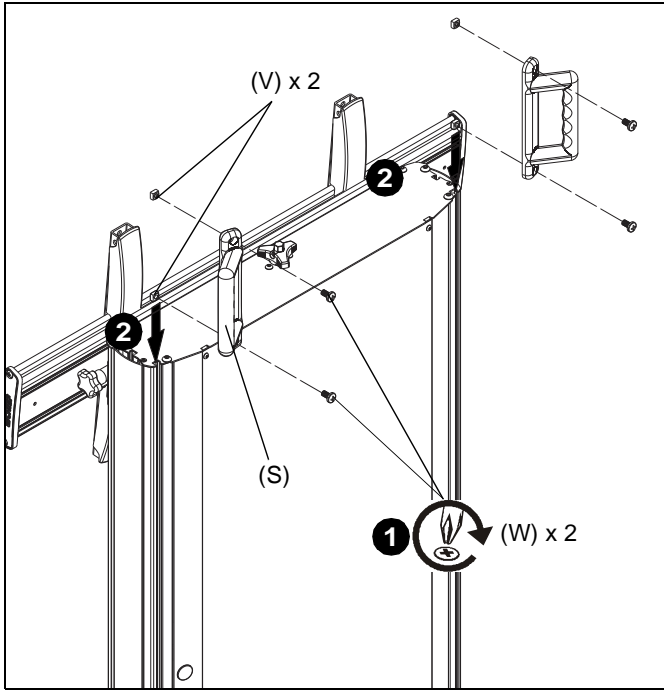

Figure 11
1. Loosely install two 1/4-20 x 1/2" Phillips pan machine screws (W) through holes in each handle (S) and into 1/4-20 square nuts (V). (See Figure 11)
2. Slide each handle into slots back of cart. (See Figure 11)